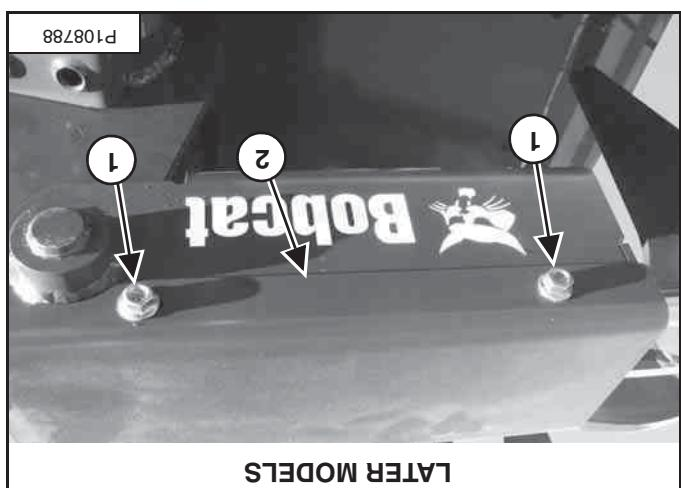

Figure 107
Remove the four bolts (item 1) and cylinder cover (item 2) [Figure 107].